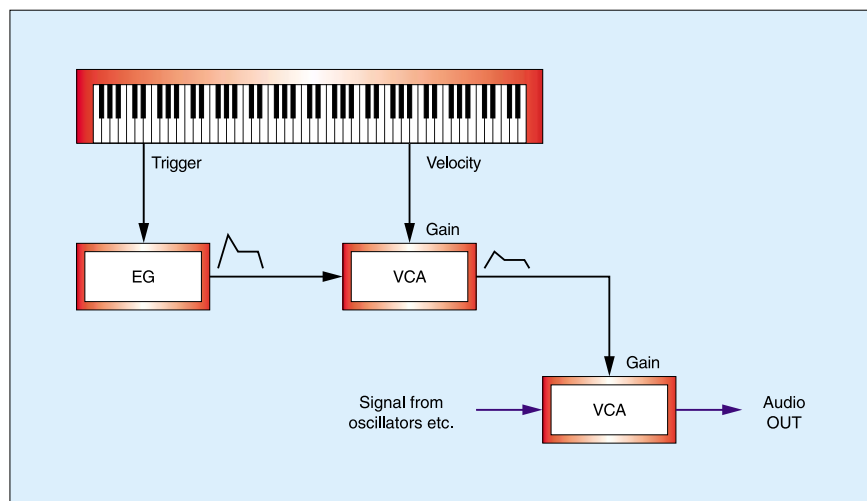
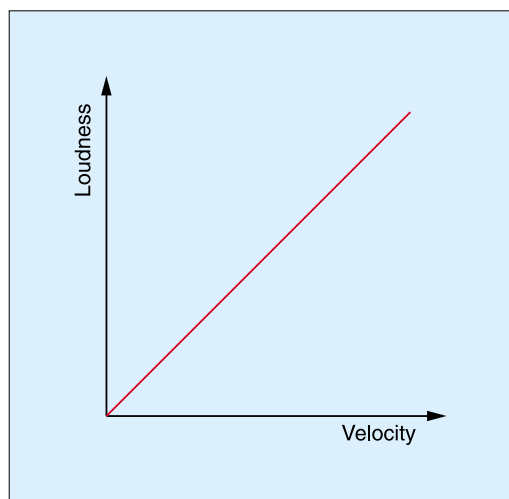
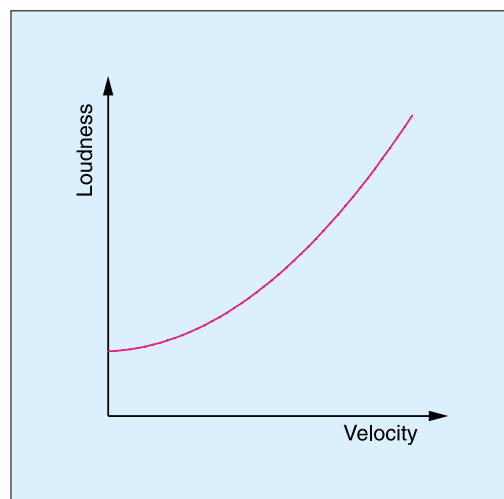

Figure 5: Using velocity to control the loudness of a sound.
Figure 6: As the velocity increases, the sound gets louder — here, a linear relationship is shown.
Figure 7: A non-linear relationship between velocity and loudness.
curve of Figure 6 with the non-linear one shown in Figure 7 (right).
Extending this idea still further, there's no reason why the parameter on the 'Y' axis of Figures 6 and 7 should be limited to Loudness. If we change this to 'amount', it could be the filter cutoff frequency, or the gain of a VCA controlling the LFO amount applied to the pitch of an oscillator... or indeed anything else in the synth. And therein lies the secret of 'dynamics'. By defining a suitable response to key velocity, and then directing
► audio signal path (as shown in Figure 5 on the previous page) so that there is a proportional relationship between velocity and Gain, then the greater the velocity, the greater the Gain, and the louder the resultant note (see Figure 6 above). This is broadly consistent with the physical mechanism shown in Figure 3(a).
If you set the Dynamics to '1', a controlled signal responds in a way similar to that shown in Figure 7. At low velocities, the CV (or its digital equivalent) is still applied with an appreciable amount. Then, as you play with greater and greater velocity, the amount increases gradually. As you approach maximum velocity, the curve slopes sharply upwards until the CV is applied with 100 percent of its maximum amplitude.